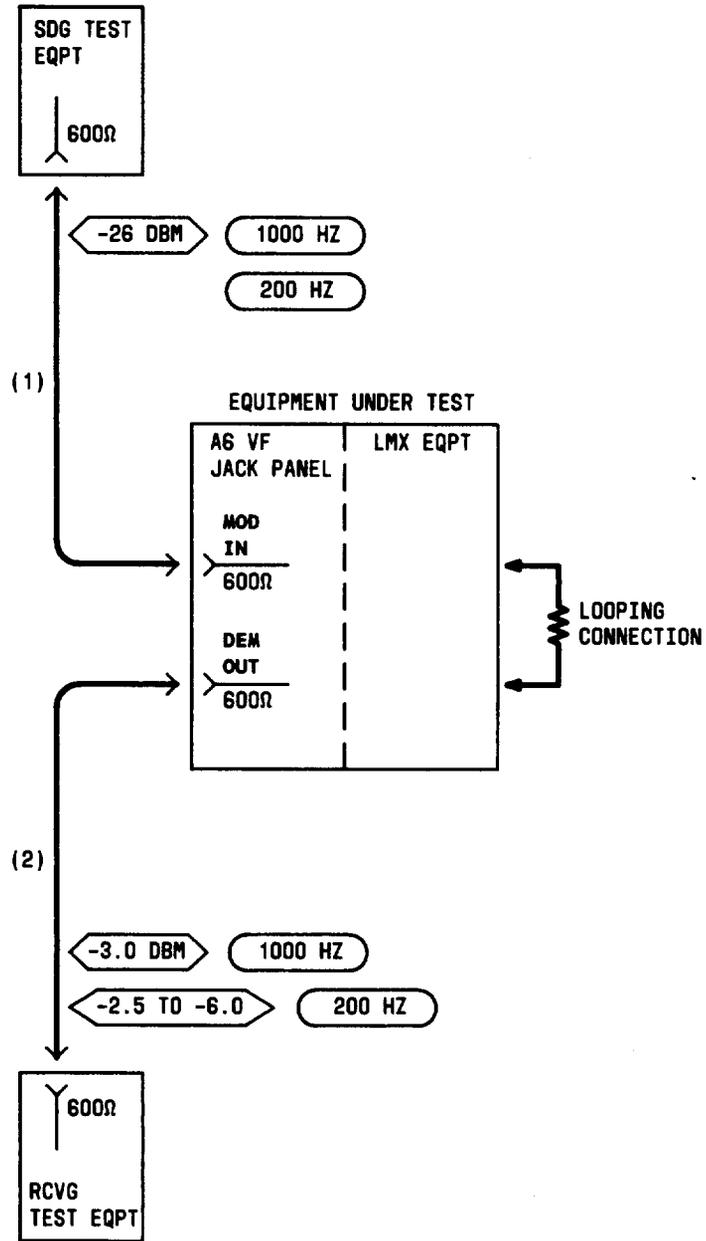

Fig. 8—Patching Diagram—Frequency Response Test—Equal-Level Looping
5	Connect the STE to the MOD IN jack for Channel 1 of the channel bank under test [patch (1), Fig. 8].
6	Connect the RTE to the DEM OUT jack for the channel under test [patch (2), Fig. 8].
11	Remove patches (1) and (2), Fig. 8.